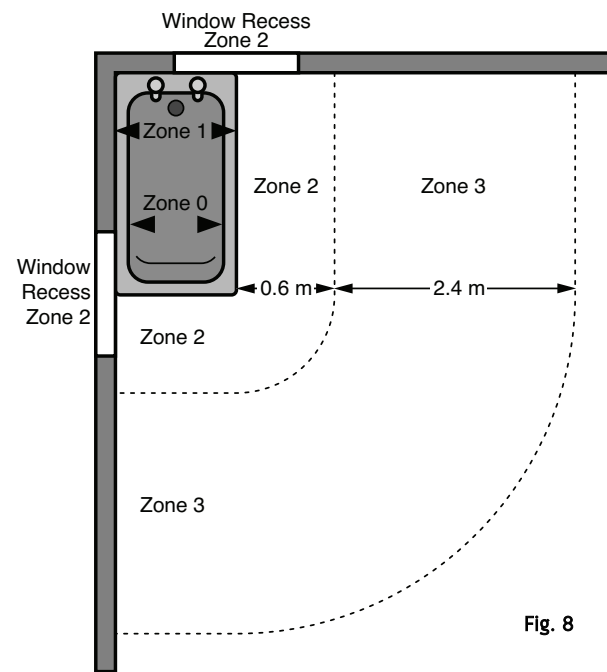

Fig. 8
3. (Figs. 8 & 9 shows zone dimensions for a bathroom. For other examples refer to Section 601 of the current I.E.E. Wiring Regulations) reference must be made to the relevant requirements.